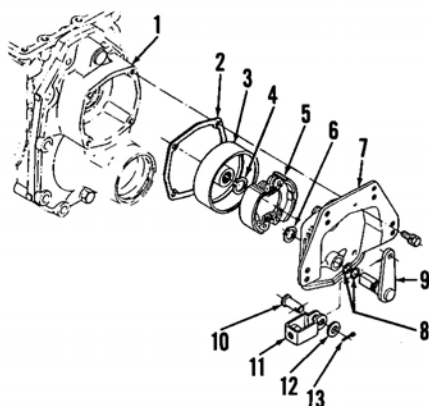
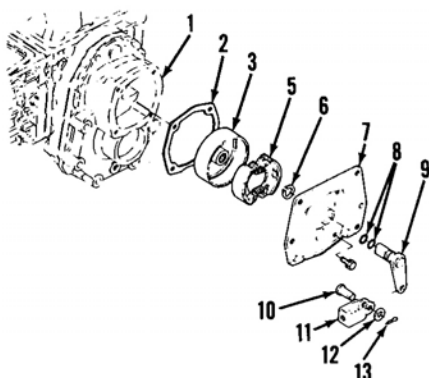

Fig. 87—Exploded view of brake assembly used on Models B6100D, B6100E, B6100HST-D, B6100HST-E, B7100D, B7100HST-D and B7100HST-E.
Fig. 87A—Exploded view of brake assembly used on Models B5100D and B5100E. Refer to legend in Fig. 87 for identification of parts.
Raise rear wheel of the side to be serviced off the ground, then detach and remove rear wheel. Remove fender assembly. Disconnect and remove brake rod. Remove the four cap screws securing brake cover (7—Fig. 87 or Fig. 87A) to axle case, then separate cover assembly from axle case. On all models except B5100D and B5100E, remove snap ring (4) before separating brake drum (3) from bull pinion shaft.
82. **OVERHAUL.** Inspect linings of brake shoes (5—Fig. 87) for stains from excessive amounts of oil, cracks, excessive wear or any other damage. Measure brake lining thickness,